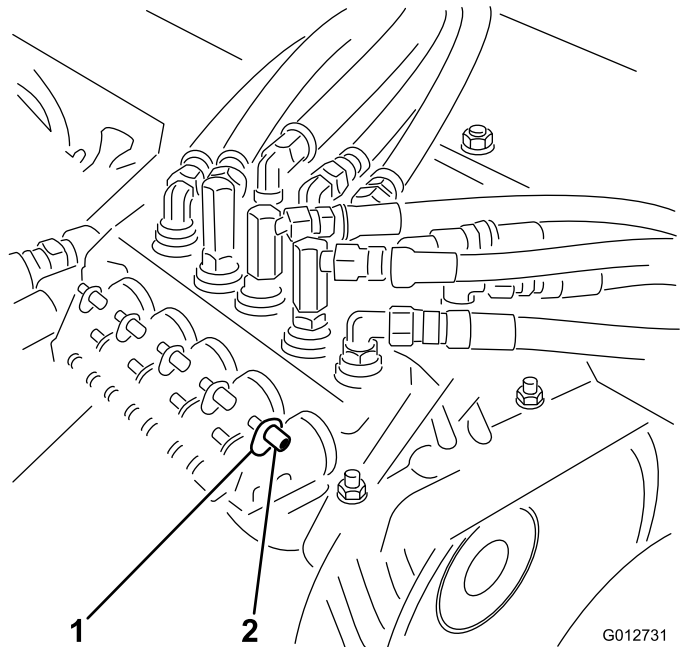
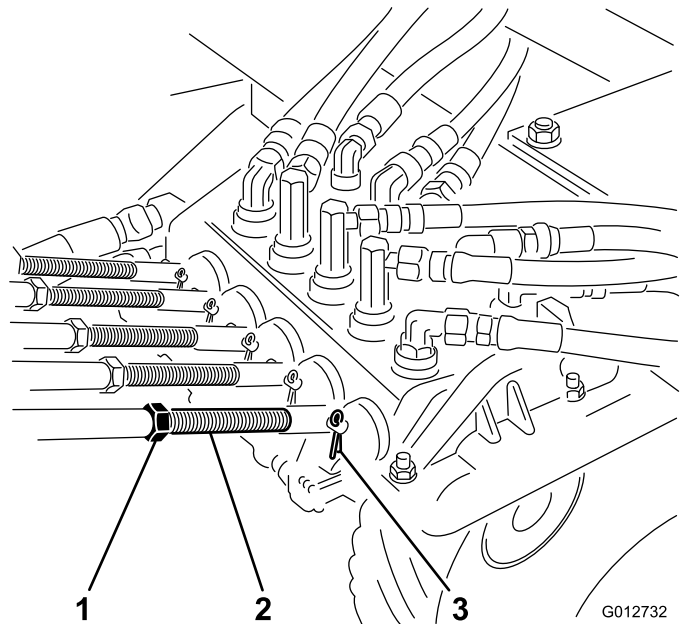
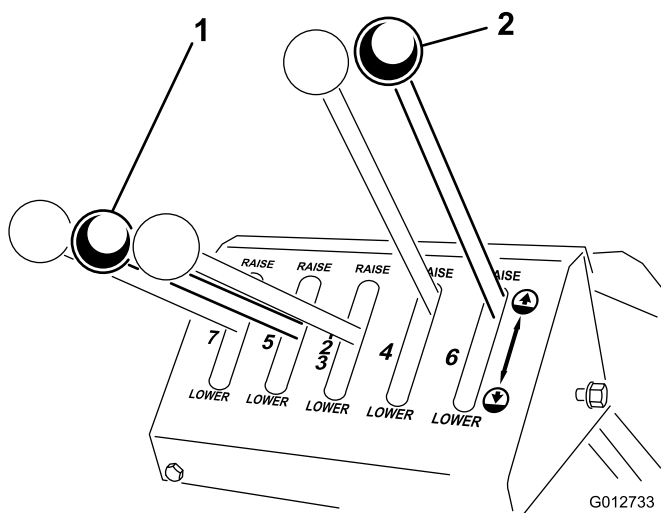

Figure 17
Figure 18
Figure 19
- Check to make sure the valve spool levers (Figure 17) are in neutral (middle position) by pivoting the levers in toward the valve, or pulling them out to find the mid position.
- Thread 7/16 inch hex nuts onto the lower control rods. Partially thread the lower control rods into the upper control tubes (Figure 18). Coat the threads with #2 gun grease.
11. Align the hole on the end of the lower control rod Figure 18 with the mounting pin in the control valve lever (Figure 17). The lever on the control tower should be in the center of the slot (neutral position) if adjusted correctly (Figure 19). Thread the lower rod into or out of the upper control tube to adjust. After each lever is adjusted, check to make sure all levers are aligned with each other. Readjust if necessary.
12. Secure control rods to control valve levers with cotter pins (Figure 18).
14. When adjusted correctly, tighten the jam nuts on the lower control rods (Figure 18).